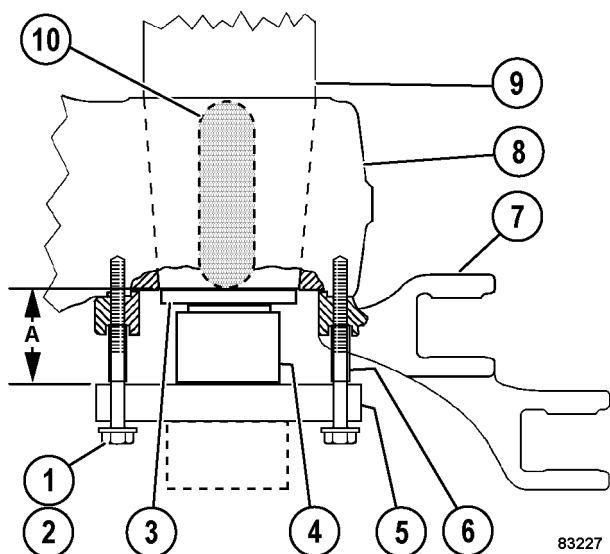

FIGURE 50-37. SPINDLE REMOVAL TOOL
26. Start applying pressure to the hydraulic ram to separate spindle (8) from suspension piston (9).
27. If the specified maximum force of the hydraulic ram is reached and the spindle has not been separated from the suspension piston, slowly and uniformly apply heat to spindle area (10, Figure 50-37).